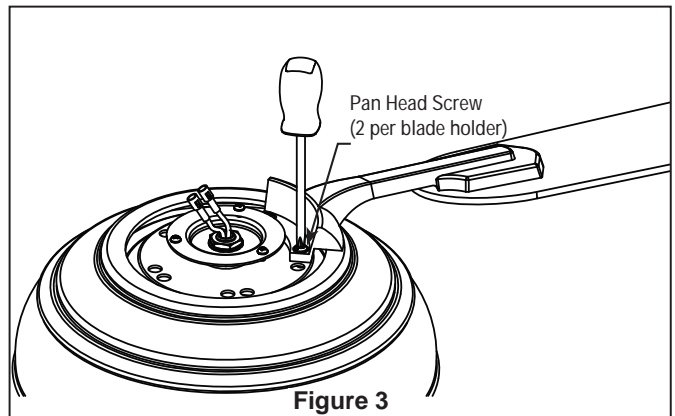

Figure 3
3. Secure the blade holders to the motor support using the 1/4"-20 screws through the holes located on the side of the motor support (Figure 3).
2. Remove one of the three screws in the support bracket at the bottom of the motor assembly. Slightly loosen the remaining two screws. Assemble the switch cup support plate to the support bracket using the two key slots in the socket plate. Replace the third screw and securely tighten all three screws (Figure 3).